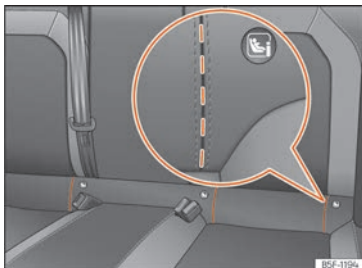

Fig. 27 Rear seat: cut-out grooves to access the ISOFIX/i-Size securing rings.
cles, the rings are secured to the seat frame and, in others, they are secured to the rear floor. The "ISOFIX" rings are located between the rear seat backrest and the seat cushioning »» Fig. 27, »» Fig. 28. The Top Tether rings are located on the rear part of the rear seat
- Open the cut-out section behind the marked grooves to access the retaining rings » **Fig. 27.**